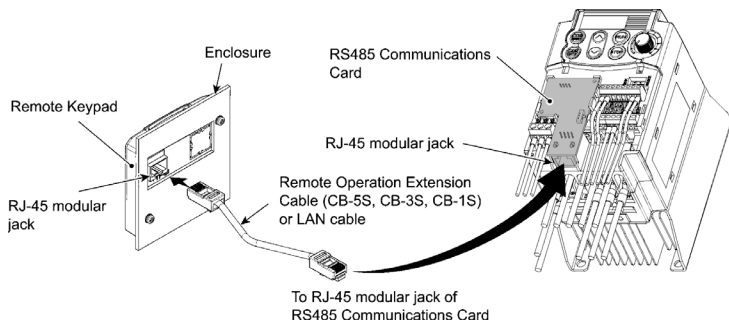

Figure 2.8 Connecting Remote Keypad to the RS485 Communications Card with Remote Operation Extension Cable or LAN Cable
- ④ Insert the connector on one end of the Remote Operation Extension Cable or LAN cable into the RJ-45 modular jack on the Remote Keypad TP-E1 (see Figure 2.8).
- ⑤ Insert the connector on the other end of the cable into the RJ-45 modular jack on the RS485 Communications Card mounted on the FRENIC-Mini.